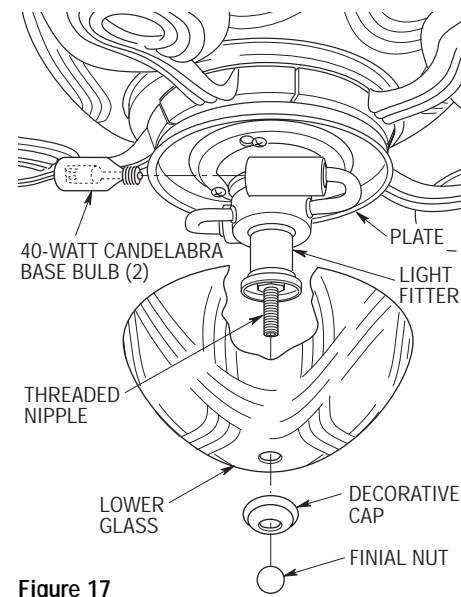

Figure 17
- 8. Screw in two 40-watt (maximum) candelabra base bulbs into the light fitter sockets (Figure 17).
- 9. Place the lower glass over the threaded nipple and seat the glass in the light fitter adapter (Figure 17). Position the decorative cap over the threaded nipple and then securely install the finial nut.